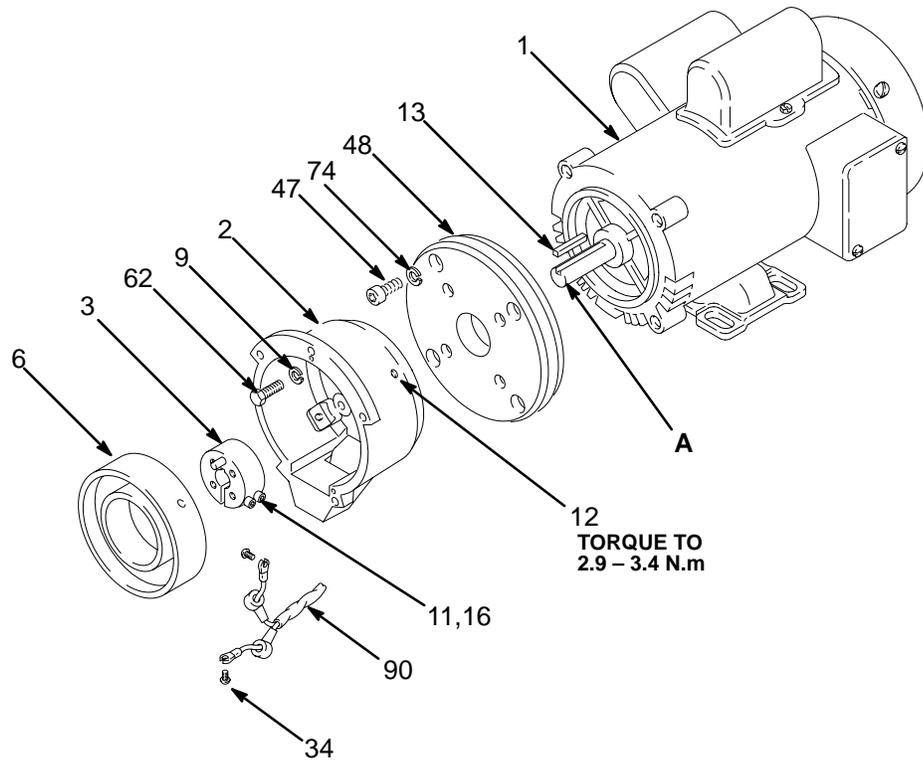

Fig. 33
1. Connect the **clutch housing (2)** to the adapter plate (48) using the screws (62) and lockwashers (9). Install the clutch housing and adapter plate assembly to the motor (1), using the screws (47) and lockwashers (74).
2. Install the motor shaft **key (13)**. See Fig. 33.
3. Press the **clamp (3)** onto the motor shaft (A). Maintain the 50.55 mm (+/- 0.25 mm) dimension shown in Fig. 33.
4. To check the dimension, place a rigid, straight steel bar (B) across the face of the clutch housing (2). Use an accurate measuring device to measure the distance between the bar and the face of the clamp. Adjust the clamp as necessary. Torque the two screws (16) to 13–15 N.m.
5. Install the **field (6)** in the clutch housing (2). Working through the slot in the clutch housing, connect the wires of the harness (90) to the screws (34) in both places on the field. Pull the plastic caps (C) up and snap them over the screws. With the setscrew holes in the field and the clutch housing (2) aligned, tighten the setscrews (12) oppositely and evenly, to 2.9 to 3.4 N.m. See Fig. 33.